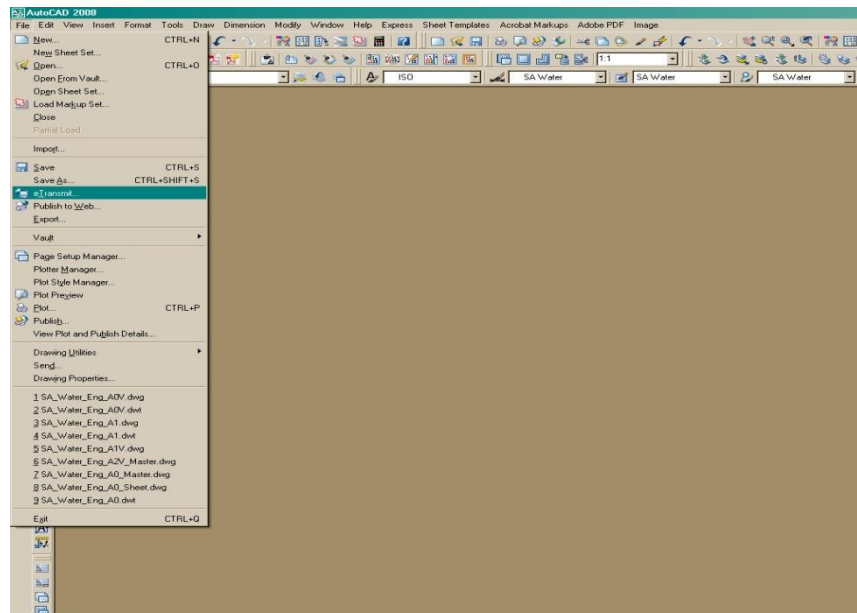

FIG. 1
- When creating the file, “AutoCAD” **E_Transmit** (Refer **FIG. 1**) shall be used to compile the drawing folder. (ZIP file)